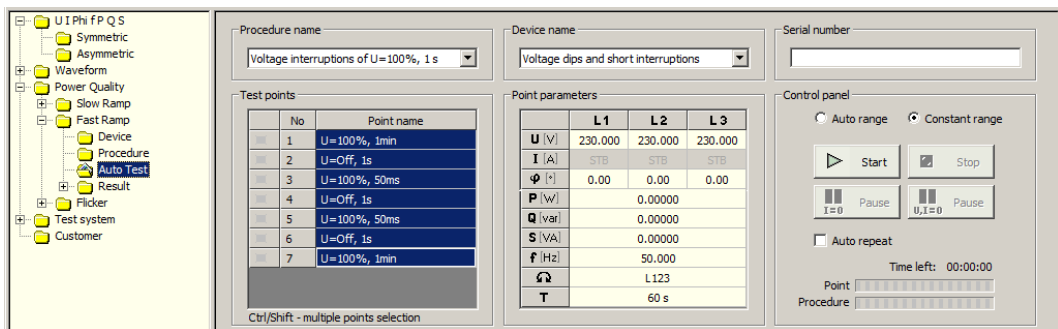

Fig.1.6. Autotest function with finished procedure
- wait until procedure is not finished (Fig.1.6).